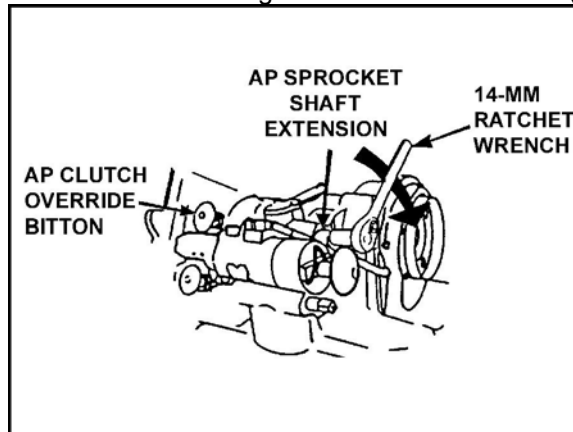

Figure 7. Upper feed shaft extension.
- d. Use the 14-mm ratchet wrench on the upper feed shaft extension and turn the shaft extension left until the upper clutch override knob goes back in the first time (Figure 7).